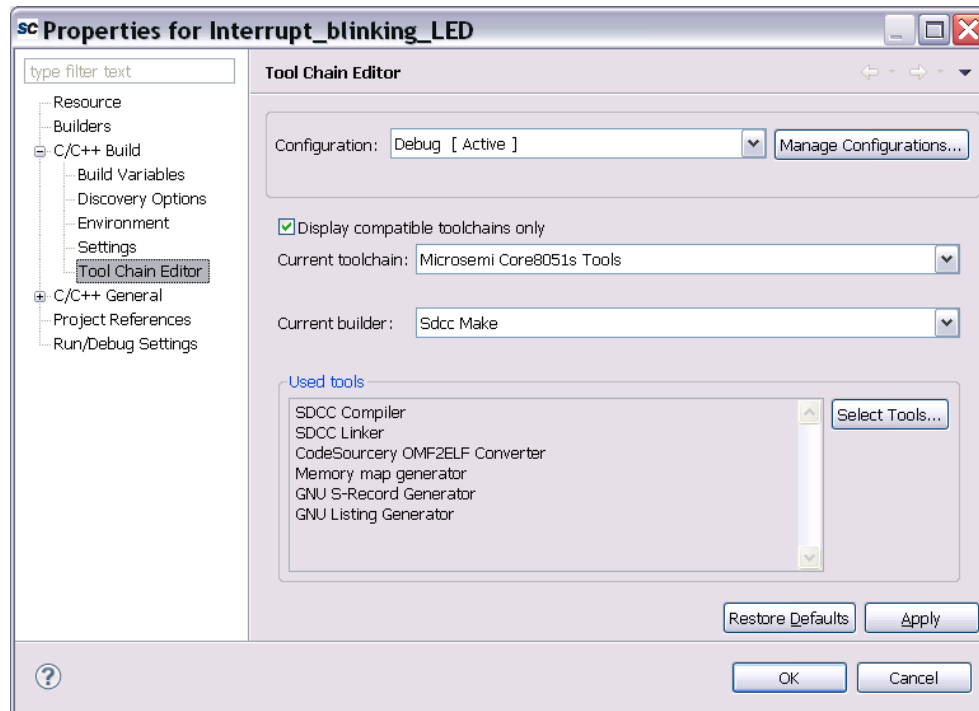

Figure 30 Tool Chain Editor
3. Navigate to **C/C++ Build** → **Tool Chain Editor**, as shown in Figure 30.